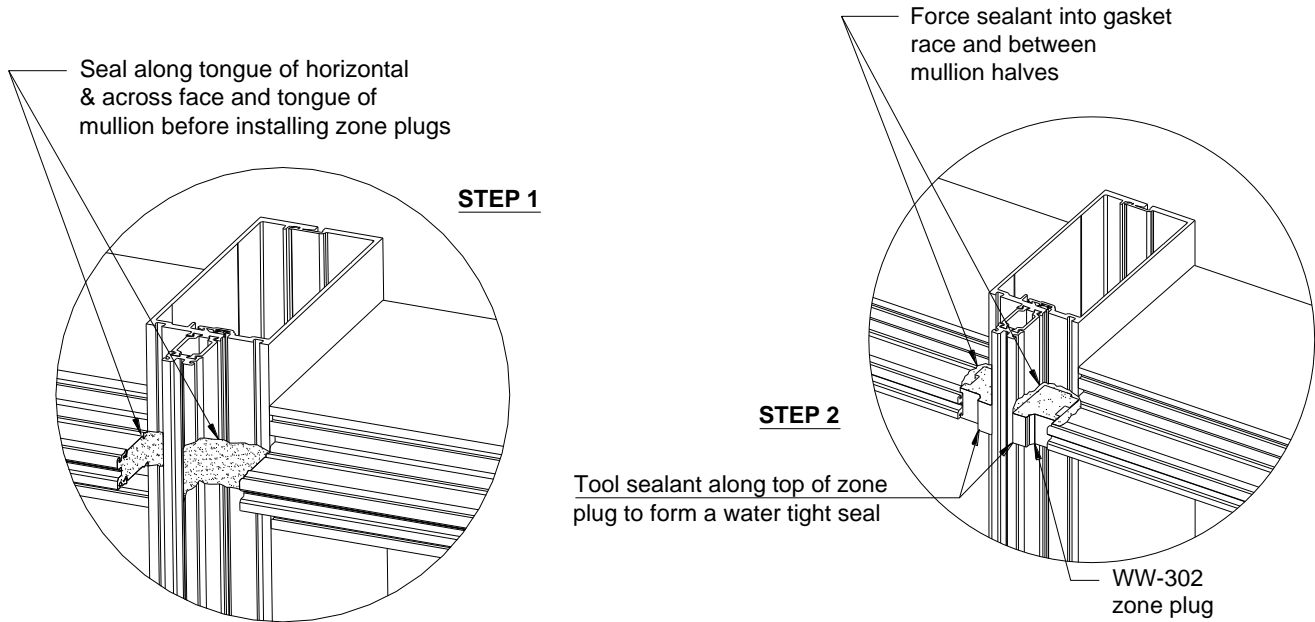

Figure 19: Zone Plug Installation - Captured Mullions
- 5.5 After bay is assembled, clean and apply sealant to all contact surfaces on vertical and horizontal mullions where the zone plugs will be installed (captured mullions only). Apply sealant to horizontal tongue receptor on zone plug and install at the end of each horizontal, head and sill. Tool any excess sealant around front end of zone plug where thermal isolator abuts the zone plug. Tool sealant in the glazing pockets to ensure a watertight fit. **See FIGURE 19.**